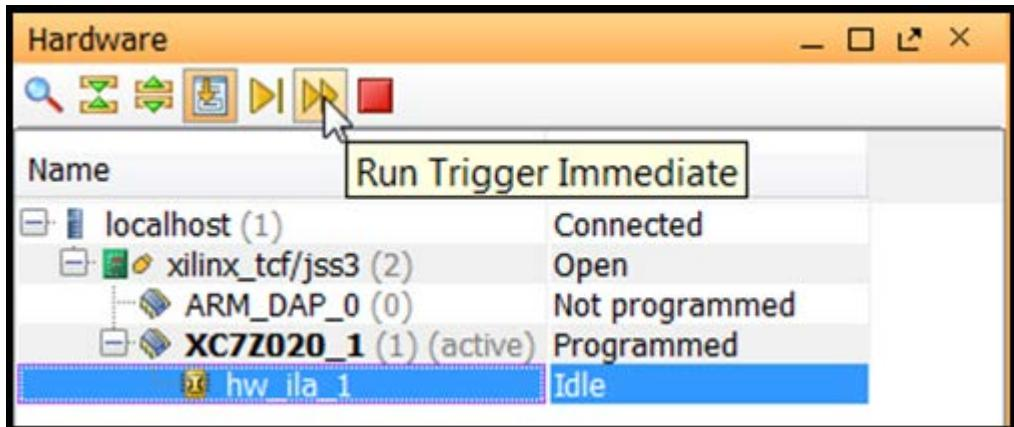

Figure 69: Run Trigger Immediate on hw_il_1
8. First, ensure the ILA core is alive and capturing data. To do this, first select the hw_il_1 core. Then, on the Hardware window toolbar, click the **Run Trigger Immediate** button, as shown in Figure 69.